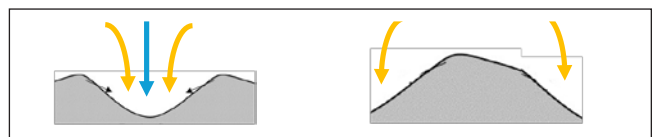

Figure 7. Example of poorly designed inlet distribution with media piled in the middle (right) or around edges.
4. Poorly designed inlet distribution, which causes the media to pile in the middle or around the edges, resulting in preferential flows through a much smaller surface and therefore operating at much higher filtration velocities than you have designed for (Figure 7).